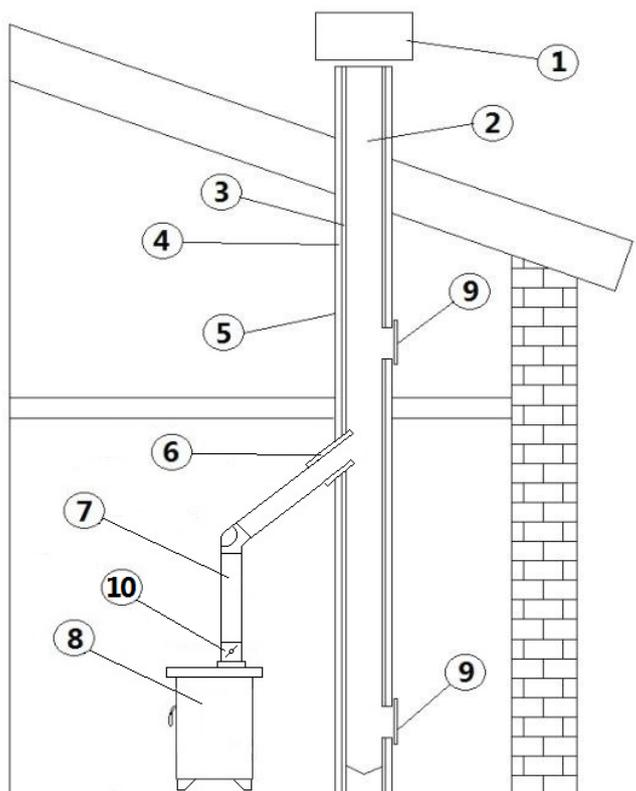

Fig. 4 - Chimney components
- We recommend using an anti-wind chimney pot, see **Fig. 4 page 7**.
- External chimney flue entirely made up of insulated stainless steel pipes, i.e. with double wall of minimum $\varnothing 150$ mm: all must be firmly attached to the wall. For chimney against wind effects please (see **Fig. 4 page 7**).